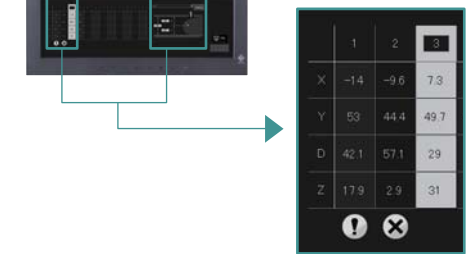

Figure 2
- A warning is provided that the tip of the needle is approaching the top of the exposure table (Figure 2).